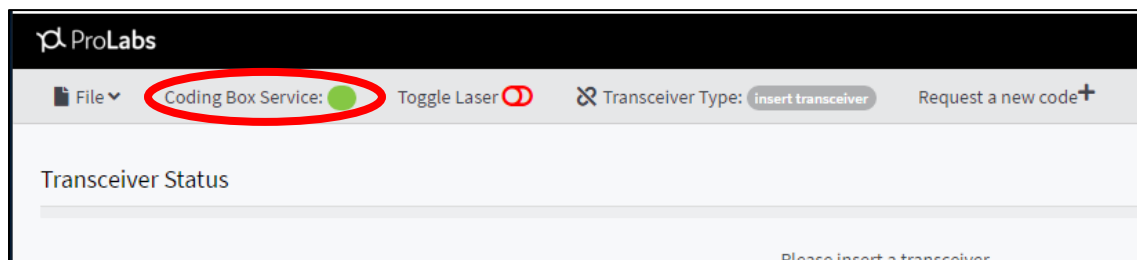

Figure 5 – ProTune™ Service
- 8) The ProTune™ application interface will now load and a green ProTune™ Coding Box Service light will indicate that you are connected to the ProTune™ appliance. (See Figure 5)